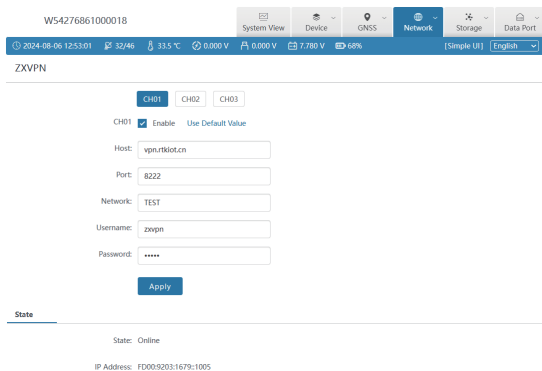

Figure 2.11
3. Click [Use default value] to apply, as shown in Figure 2.11.